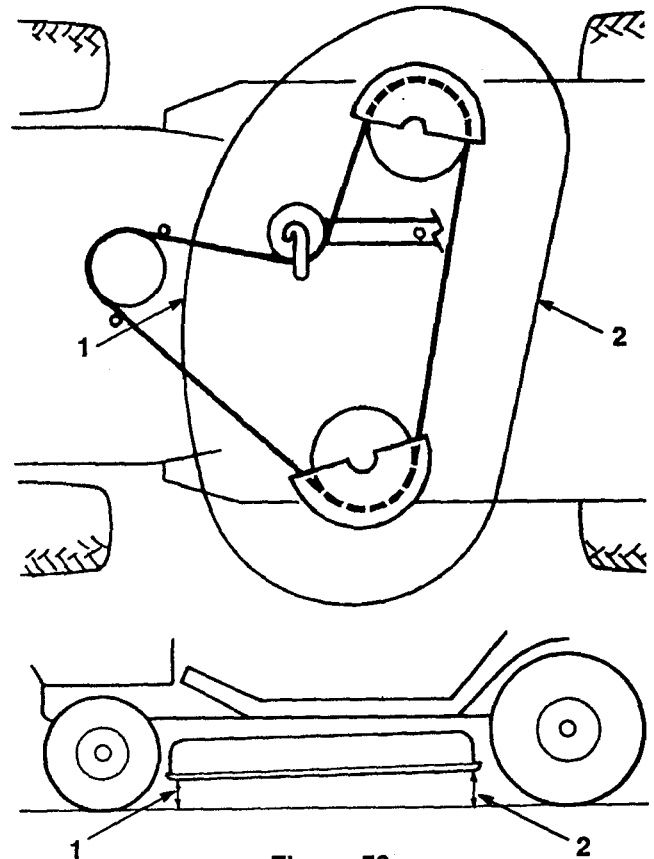

Figure 50
5. Check the front to rear slope by measuring between the bottom of the mower (front center and rear center) and the flat surface (Fig. 50). If the front of the mower is more than 5/8" (15.875 mm) lower than the rear of the mower, an adjustment is required; refer to steps 6, 7, 8 and 9.